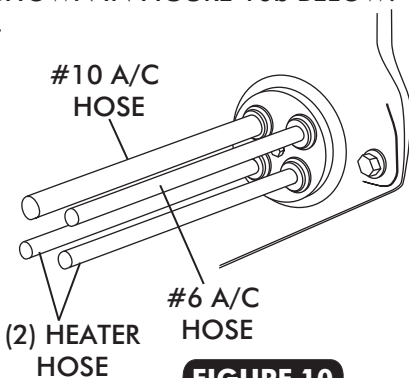

FIGURE 10
- ROUTE A/C AND HEATER HOSE THROUGH FRESH AIR CAP AND KICK PANEL FRESH AIR CAP AS SHOWN IN FIGURE 10 AND 10b, BELOW.